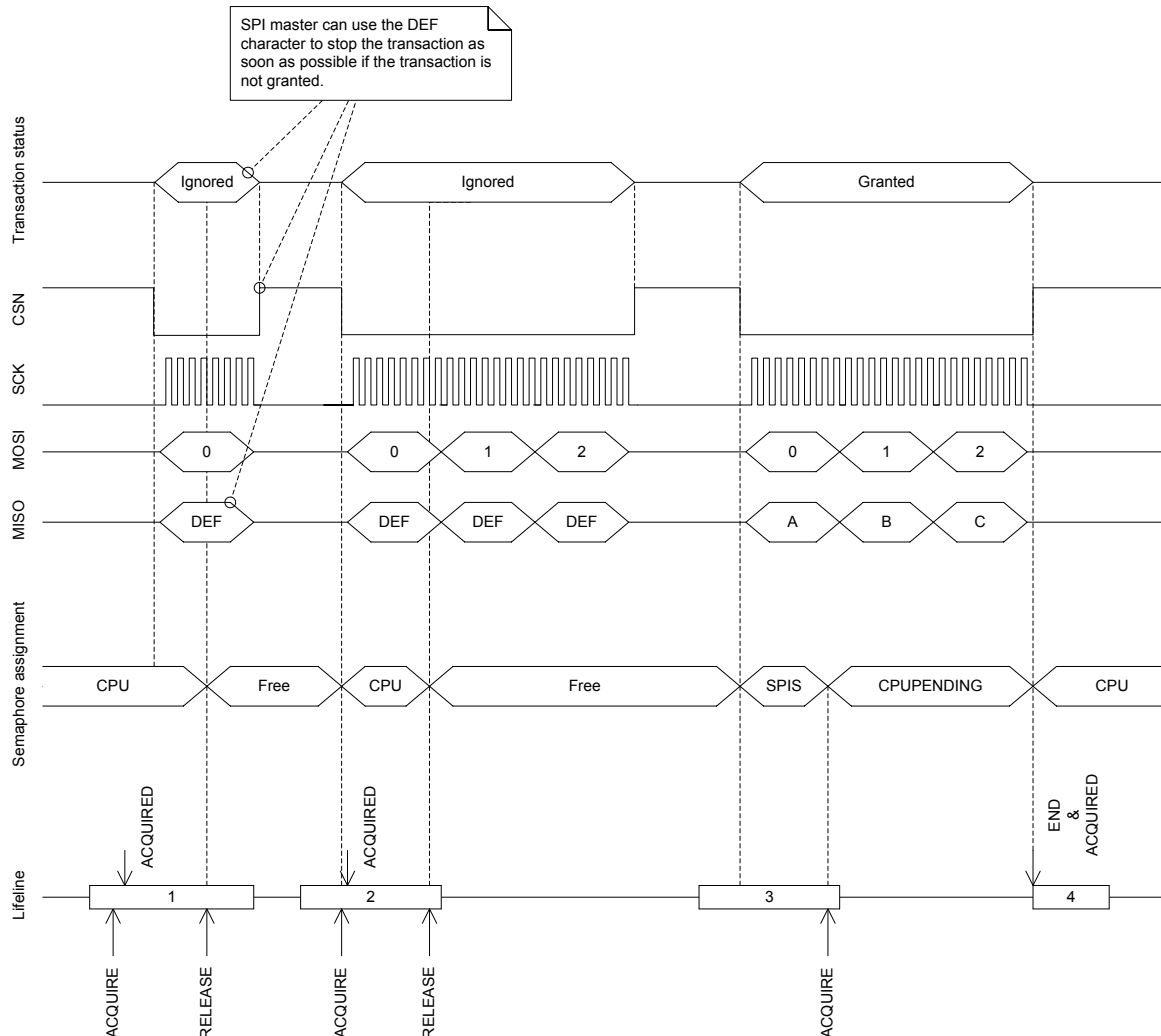

Figure 74: SPI transaction when shortcut between END and ACQUIRE is enabled
See Figure 74: SPI transaction when shortcut between END and ACQUIRE is enabled on page 293.
Before the CPU can safely update the RXD.PTR and TXD.PTR pointers it must first acquire the SPI semaphore. The CPU can acquire the semaphore by triggering the ACQUIRE task and then receiving the ACQUIRED event. When the CPU has updated the RXD.PTR and TXD.PTR pointers the CPU must release the semaphore before the SPI slave will be able to acquire it. The CPU releases the semaphore by triggering the RELEASE task. This is illustrated in Figure 74: SPI transaction when shortcut between END and ACQUIRE is enabled on page 293. Triggering the RELEASE task when the semaphore is not granted to the CPU will have no effect.
The SPI slave will try to acquire the semaphore when CSN goes low. If the SPI slave does not manage to acquire the semaphore at this point, the transaction will be ignored. This means that all incoming data on MOSI will be discarded, and the DEF (default) character will be clocked out on the MISO line throughout the whole transaction. This will also be the case even if the semaphore is released by the CPU during the transaction. In case of a race condition where the CPU and the SPI slave try to acquire the semaphore at the same time, as illustrated in lifeline item 2 in Figure 74: SPI transaction when shortcut between END and ACQUIRE is enabled on page 293, the semaphore will be granted to the CPU.